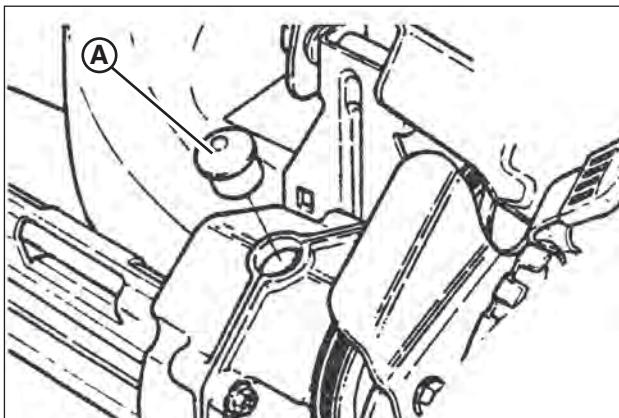

Figure 16: Removing the transmission fill plug
1. Remove the transmission fill plug (**A**, **Figure 16**). Roll the machine forward or backward while looking down into the plug hole.